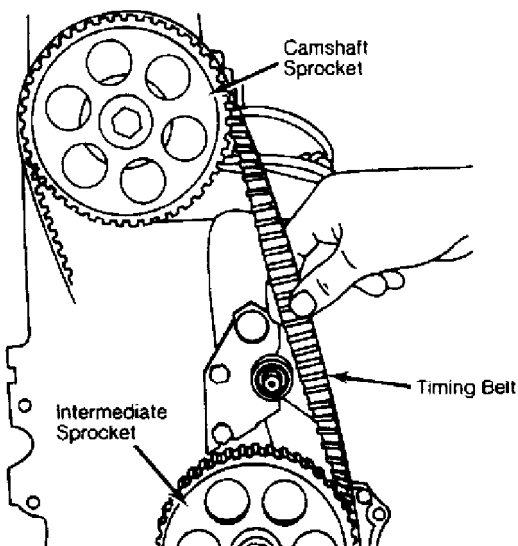

Fig. 9: Checking 1.8L Timing Belt Tension (8-Valve)
3) Rotate tensioner clockwise to tighten belt and install lock nut. Proper deflection is achieved when longest span of belt between sprockets can be twisted 90 degrees. See Fig. 9. By hand, rotate crankshaft 2 turns and check timing mark alignment. To complete installation, reverse removal procedure.